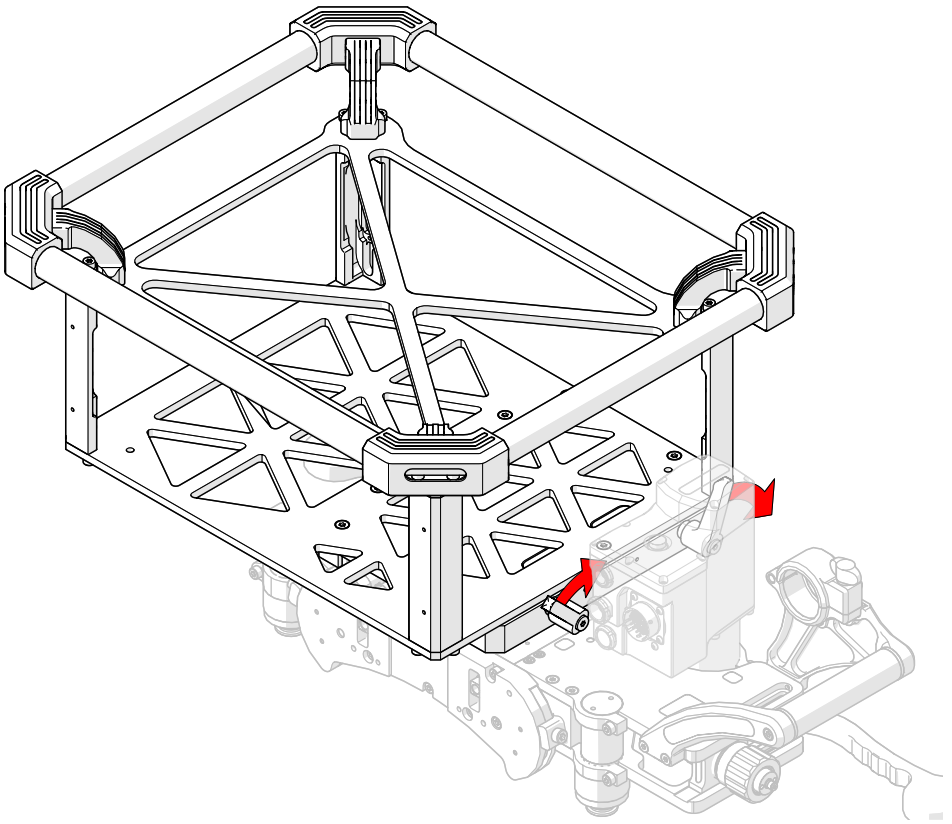

Fig. 96 - Tighten ratchet levers and align with the instrument box mount on the carriage
3. Tighten ratchet levers to mount the instrument box frame to the carriage (Fig. 96, Ratchet levers located behind motor can).